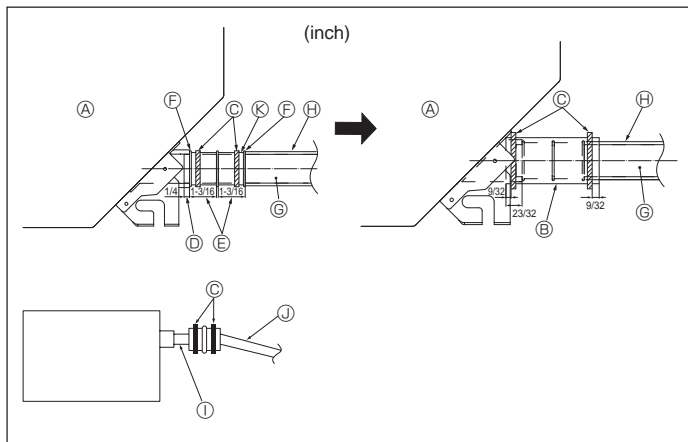

Fig. 3-2
1. Connect the drain socket (supplied with the unit) to the drain port. (Fig. 3-2) (Fix the tube using PVC adhesive then secure it with a band.)